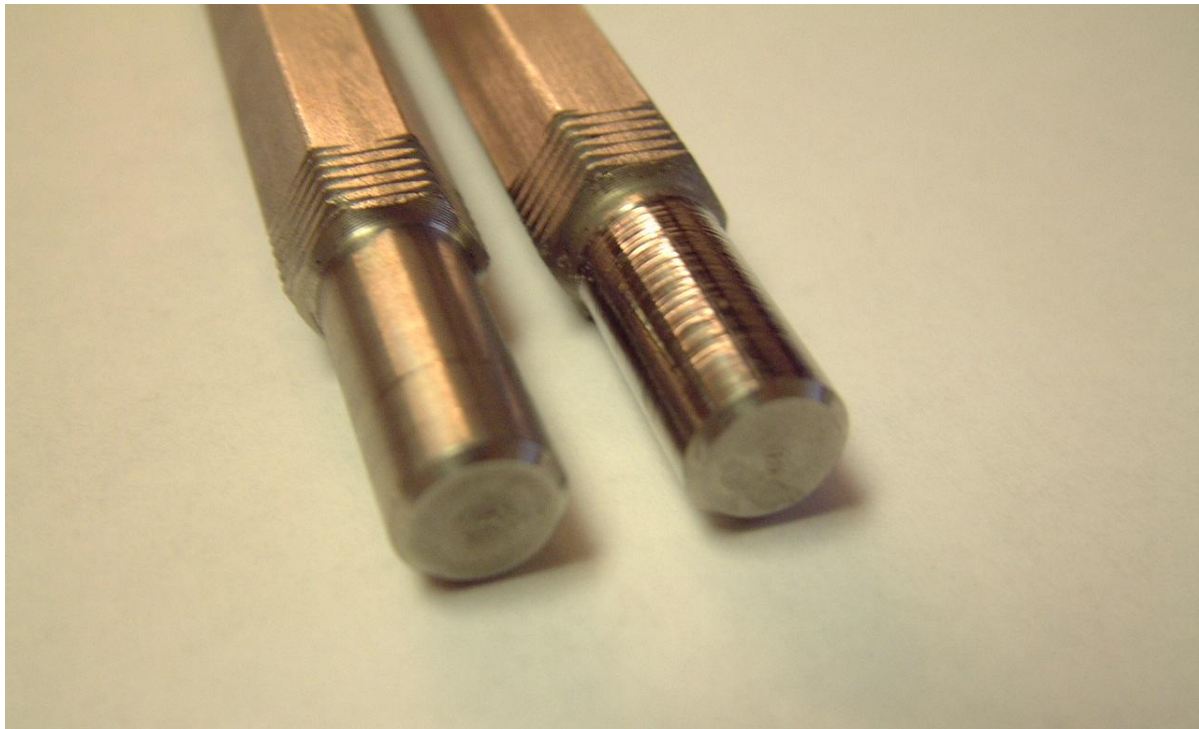

Figure 1 - Pump Shaft
A.Y. McDonald's submersible pump line regularly has field examples of part erosion due to aggressive water. The first example is of the stainless steel pump shaft, which rides against a rubber bearing. The original diameter of the pump shaft was .371" and is shown on the left in Figure 1. After fifteen minutes of exposure to aggressive water, the shaft diameter was reduced to .366", shown on the right in Figure 1.